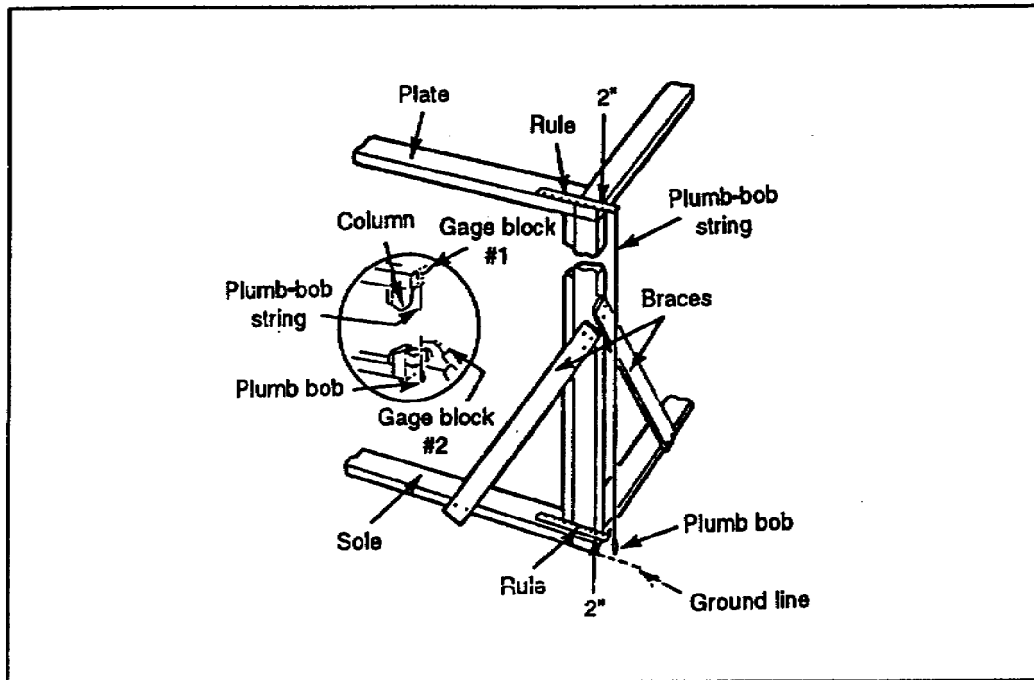

Figure 2-14. Plumbing a post
(3) Hang the bob line over the rule so that the line is 2 inches from the post and extends to the bottom of it. Refer to Figure 2-14.
(4) With another rule, measure the distance from the post to the center of the line at the bottom of the post. If it does not measure 2 inches, the post is not plumb.
(5) Move the post inward or outward until the distance from the post to the center of the line is exactly 2 inches, then nail the temporary brace in place.
(6) Repeat this procedure from the other outside face of the post. The post is then plumb.
b. Method 2. An alternate method of plumbing a post is shown in the inset in Figure 2-14. To use this method--
(1) Attach the plumb-bob string securely to the top of the post to be plumbed. Be sure that the string is long enough to allow the plumb bob to hang near the bottom of the post.
(2) Use two blocks of wood, identical in thickness, as gauge blocks.
(3) Tack one block near the top of the post between the plumb-bob string and the post (guard block 1).
- (4) Insert the second block between the plumb-bob string and the bottom of the post (gauge block 2).
- (5) If the entire face of the second block makes contact with the string, the post is plumb.